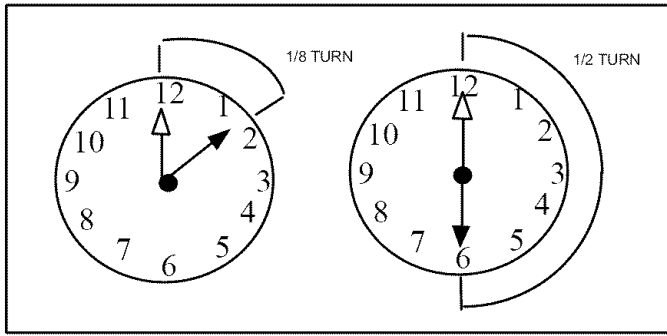

Figure 23. Tightening Distance
3. Attach the stubbed end of the CTXV to the liquid line orifice housing. Finger tighten and use an appropriately sized wrench to turn an additional 1/2 turn clockwise as illustrated in figure 23, or 20 ft-lb.
an additional 1/2 turn clockwise as illustrated in figure 23, or 20 ft-lb.
- Connect the equalizer line from the TXV to the equalizer suction port on the suction line. Finger tighten the flare nut plus 1/8 turn (7 ft-lbs) as illustrated in figure 23.